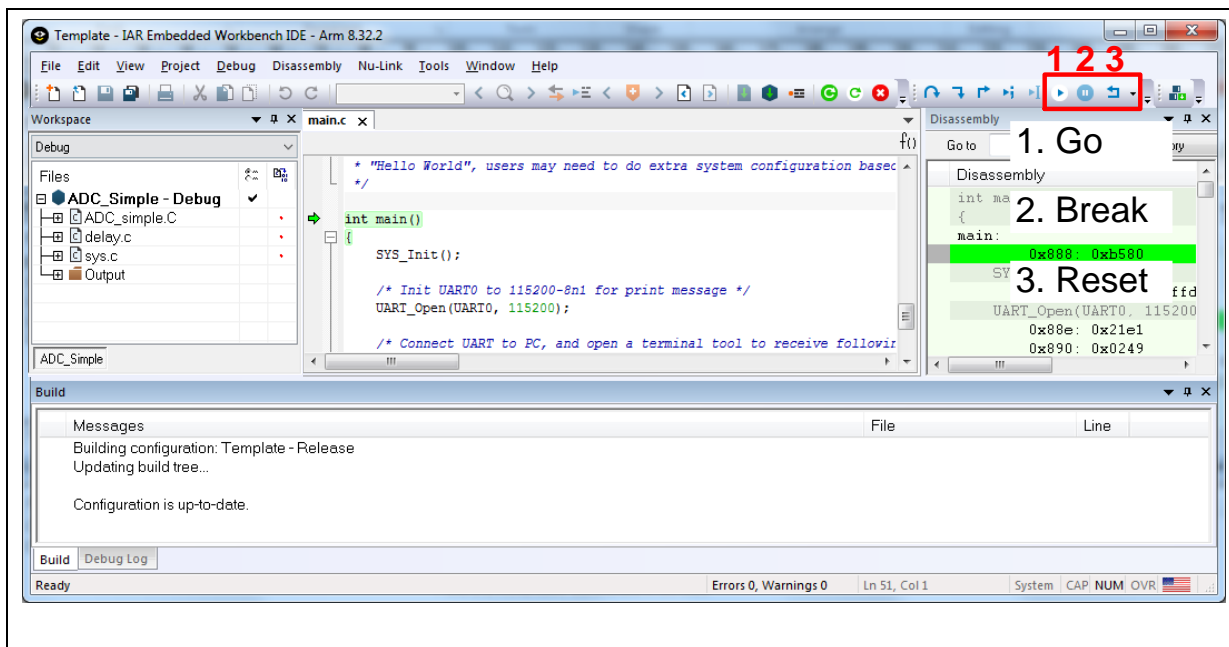
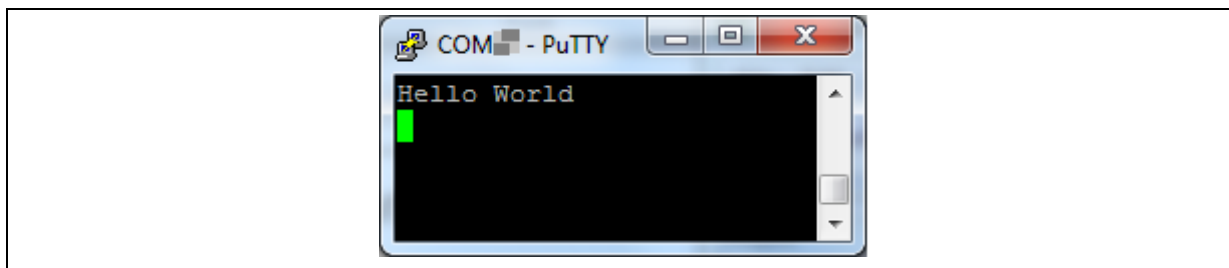

Figure 3.6-9 IAR EW8051 Debug Mode
Figure 3.6-10 Debug Message on Serial Port Terminal Windows
4. Figure 3.6-9 shows the debug mode under IAR EW8051. Click "Go" and the debug message will be printed out as shown in Figure 3.6-10. User can debug the project under debug mode by checking source code, assembly language, peripherals' registers, and setting breakpoint, step run, value monitor, etc.